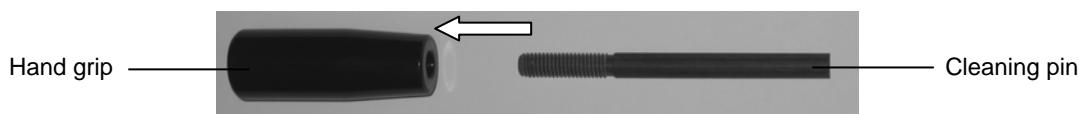

Figure 1: Hand grip with cleaning pin
- Select the appropriate cleaning pin for the cylinder and screw it into the hand grip as far as it will go. The hand grip works universally with all cleaning pins (**Figure 1**)